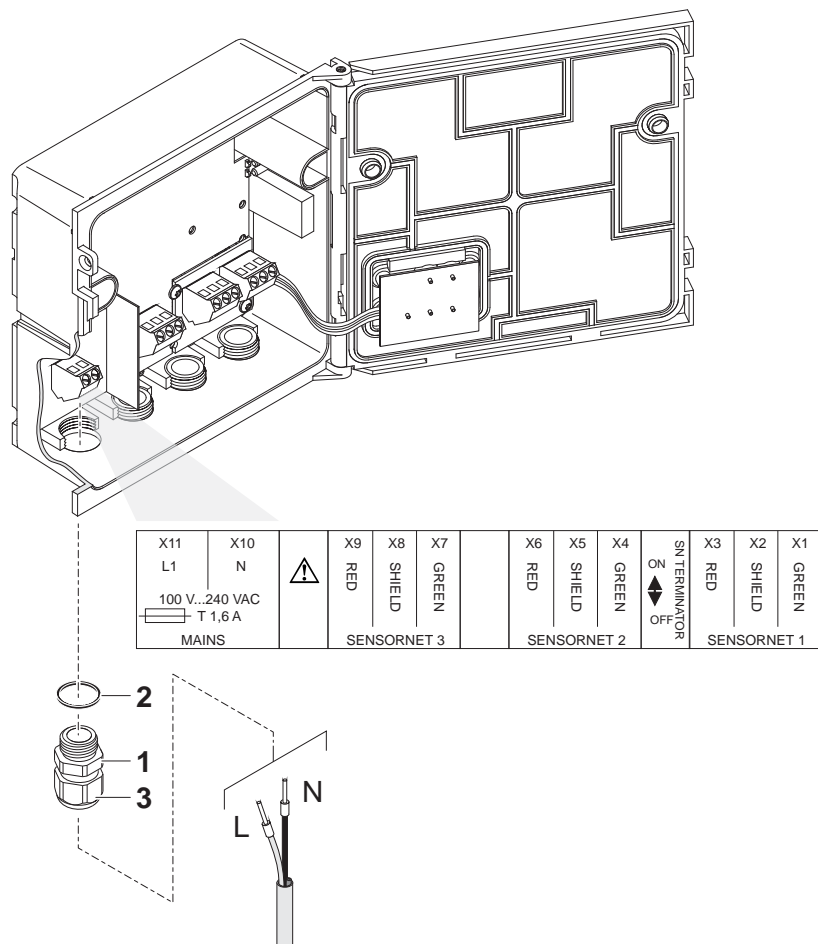

Fig. 3-2 Connecting the power line.
6	Screw the cable gland (pos. 1 in Fig. 3-2) with the sealing ring (pos. 2) into the module housing.